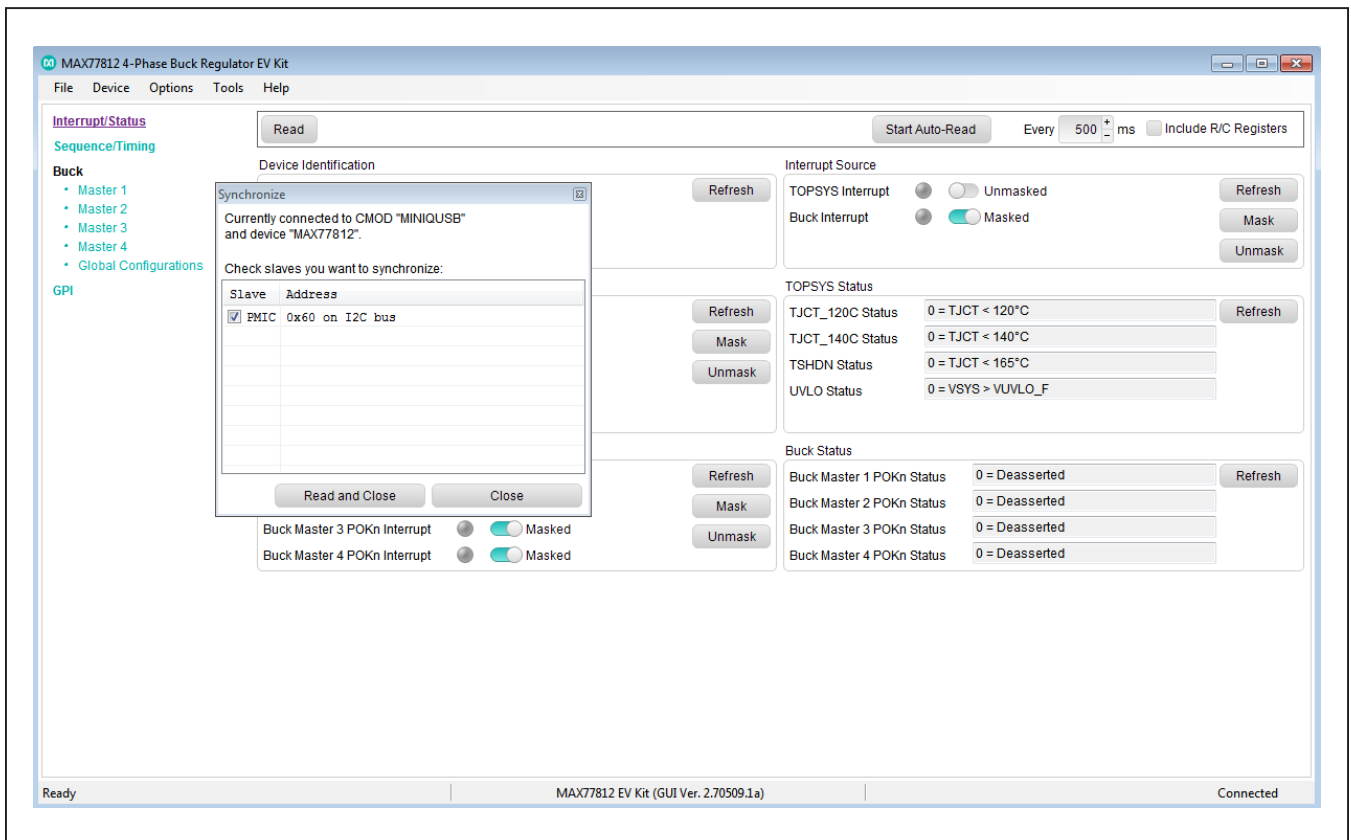

Figure 4. MAX77812 EV Kit GUI Connection
- 4) Enable the power supply output and confirm the input current is low ($< 100\mu\text{A}$). Open the MAX77812 GUI window and click on **Device** then **Connect**. If the connection is successful, it displays the message **Currently connected to MINIUSB CMOD and DEVICE MAX77812**. Click **Read** and close (Figure 4).